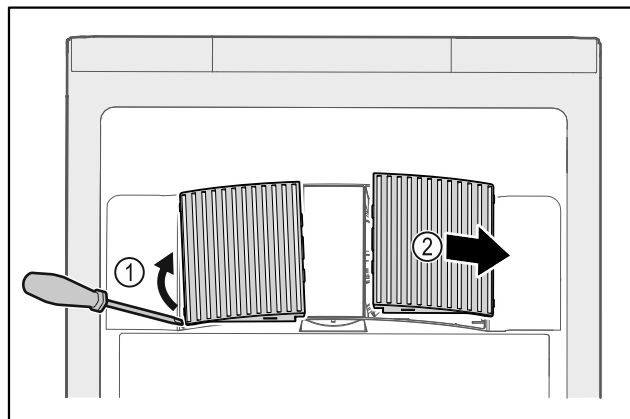

Fig. 173
- ▶ Carefully lever out fan covers from the side Fig. 173 (1) and remove towards the front Fig. 173 (2).